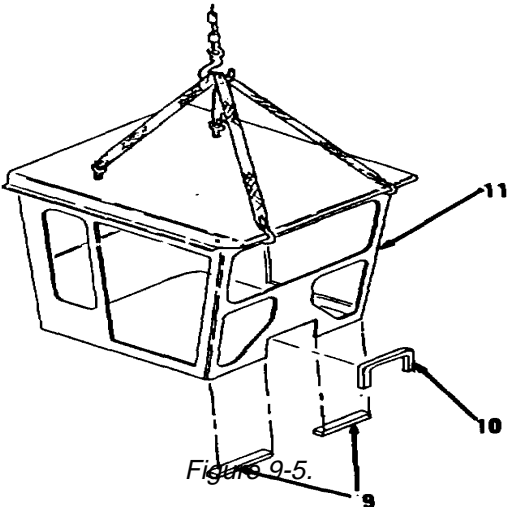
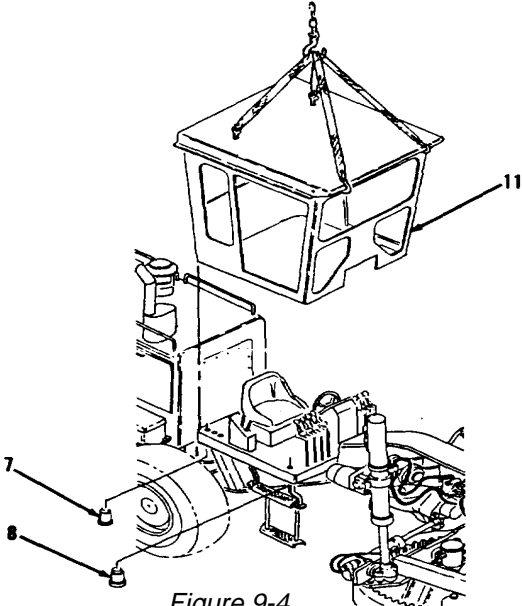

Figure 9-5.
Figure 9-4.
- 5. Using hoist and sling, remove ROPS (11, Figure 9-4).
- 6. Remove six mountings (7) and two mountings (8).
- 7. Remove two pads (9) and pad (10) from ROPS (11, Figure 9-5). Discard pads (9 and 10). Pads (9 and 10) are secured with adhesive. Remove all dried adhesive, grease and dirt from pad mounting surfaces.
- 8. Lower ROPS (11) onto level surface.